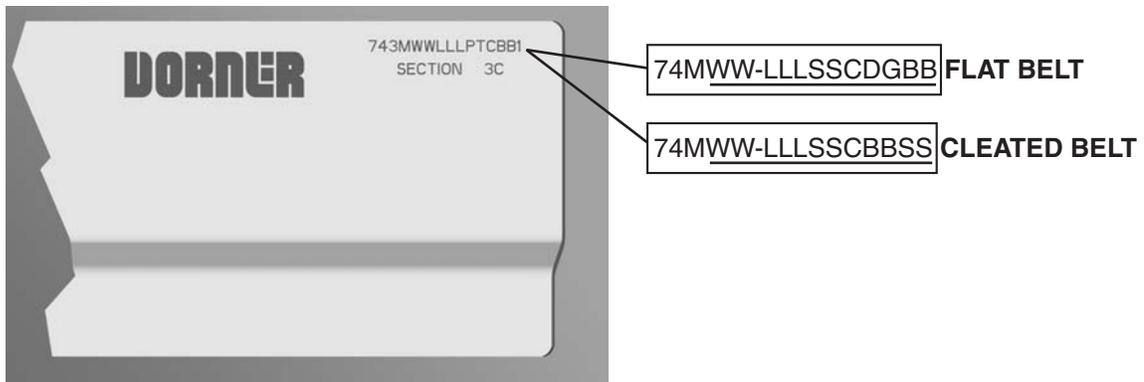

Figure 72
Refer to the model number on the conveyor frame (**Figure 72**). From the model number, determine conveyor width (WW), length (LLL), drive stand location (S), idler stand location (S), cleaning options (C), drive/pulley type (D), profile (G) and belt material (BB).